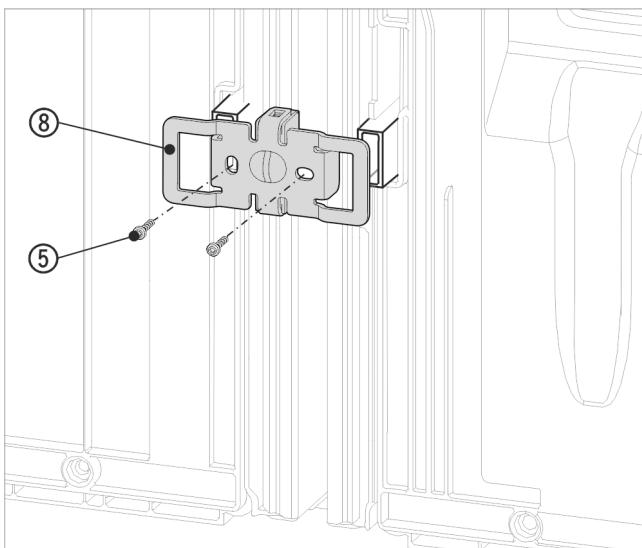

Fig. 16 Example illustration
- ▶ Slide the bracket Fig. 16 (8) on once more with the slots over the retainer for the wall spacers.
- ▶ Screw in tightly with the 2 screws Fig. 16 (5).